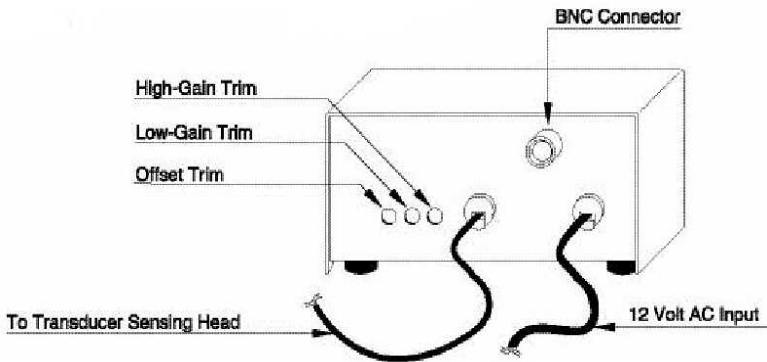

Figure 3. Electrical Output
On the rear panel of the power supply are three small access holes to the trim pots. (See Fig. 3) The high and low gain trim pots are used to adjust the range. The right-hand trim pot is factory set to deliver 5.0 VDC for 5.0 gram. The center trim pot is factory set to deliver 5.0 VDC for 50 gram. Either can be adjusted to deliver more or less output as conditions dictate.
- Binding post are provided on the power supply for output connections. Red is positive (+); black is negative (-) and also ground. (See Fig. 3)